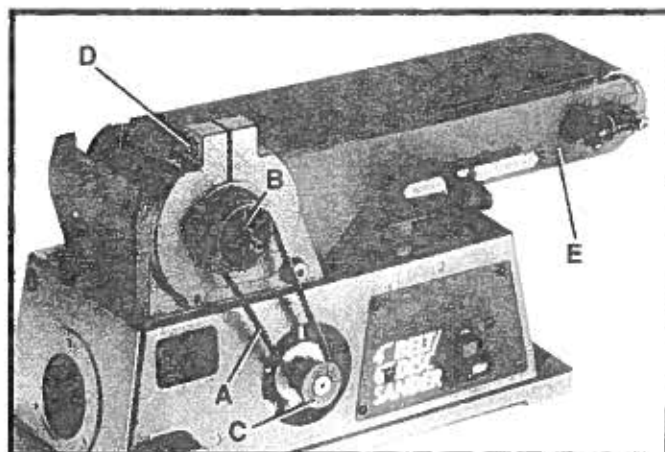

Fig. 2
Your sander was shipped from the factory with the drive belt (A) Fig. 2, assembled to both pulleys (B) and (C). Before assembling the disc unit to the machine, check and adjust the belt tension as follows:
1. Loosen screw (D) Fig. 2, and move sanding arm (E) to the vertical position to expose belt tensioning screw (F) Fig. 3, and locknut (G).